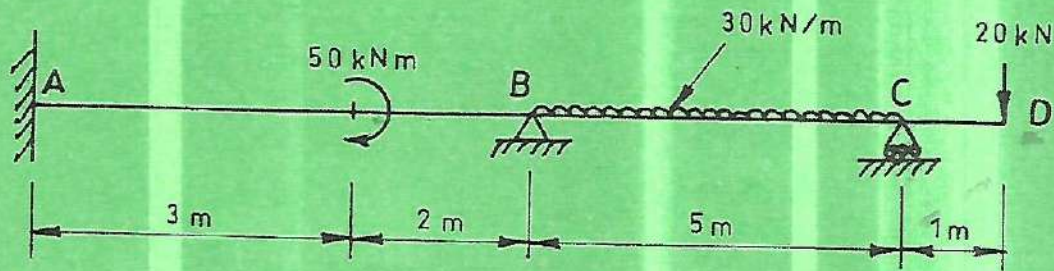

Fig. 1
1. Using the method of three moment theorem, analyze the beam shown in figure 1 and hence sketch the bending moment diagram indicating values of critical points. (20 marks)